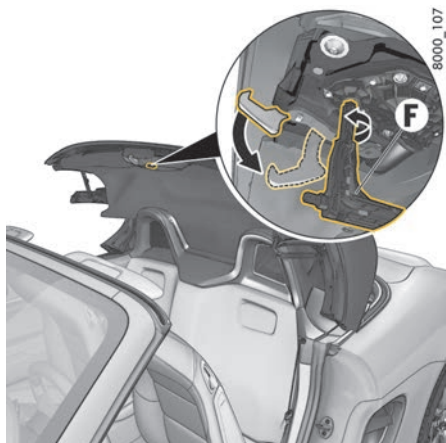

Fig. 65: Extending the convertible top latching hook
3. Insert the key **F** into the convertible top lock (Fig. 65) and turn anti-clockwise until the latching hook is fully extended (noticeable resistance when turning).